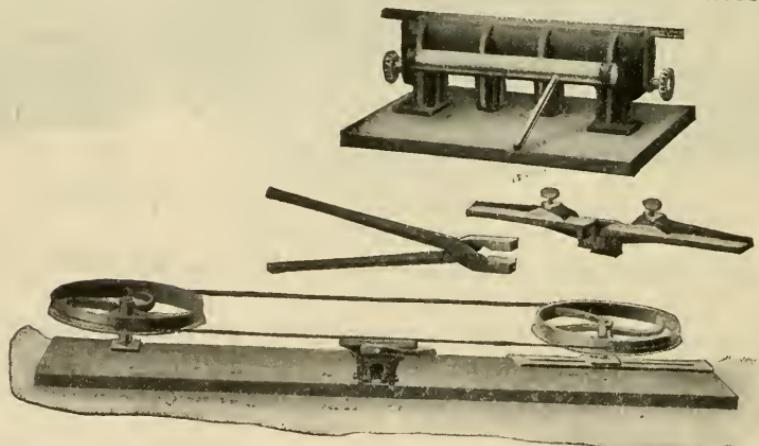
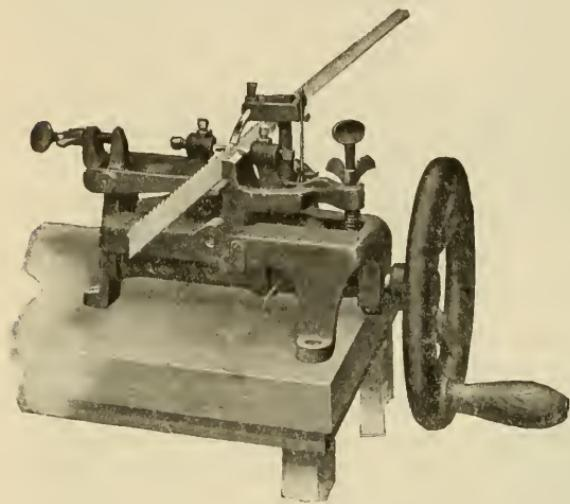

Fig 41 -- WHEELS AND CLAMP FOR HAND FILING. (LARGER SCALE VIEW OF CLAMP AND BRAZING TONGS AT TOP.)
Fig. 42. - NARROW BAND SAW
43. Setting and Filing-- When small band saws are set by hand the process is very much like that of setting and filing an ordinary cross-cut hand saw. But to do this conveniently, it is necessary to have two large wheels (either wood or metal) and a vise, Fig. 41, on which to hold the band saw while fitting. The more common method however, is to use a machine for setting and an automatic machine for filing. A narrow band saw setting machine is illustrated in Fig. 42. This machine sets all of the teeth uniformly and may be adjusted to set saws $\frac{1}{8}$ " to $1\frac{1}{2}$ " in width with the teeth spaced 1-16" to $\frac{5}{8}$ ". The vise automatically grips the blade while the teeth are being set and prevents in this way the twisting of narrow saws.
This machine is intended for a power drive or may be arranged to drive by hand. It will take saws of the same specifications as the setting machine in Fig. 42.